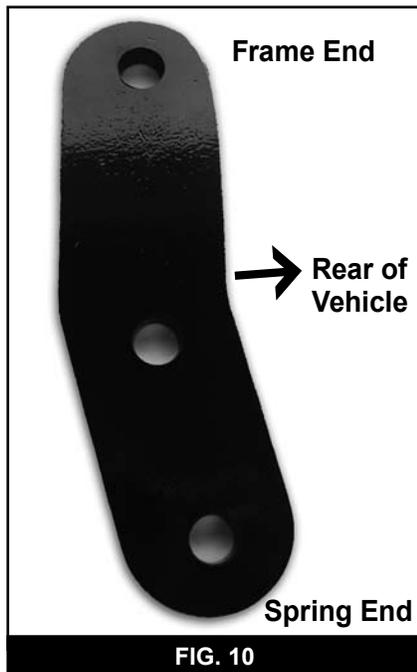

FIG. 10
16. Loosely install two new rear shackle plates (curved) to the frame with a 1/2" x 4-1/2" bolt, nut and 1/2" SAE washers from bolt pack #910. The two closest holes in the plate will go toward the spring. The bend in the shackle will go down and toward the rear of the vehicle. (Fig. 10) Loosely install the shackle spacer in the middle holes on the shackle plate and retain with 1/2" hardware from bolt pack #910.